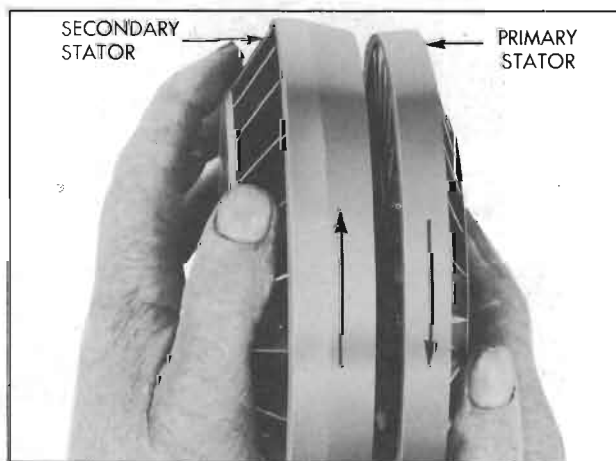

Figure 4-92—Separating the Primary and Secondary Stators
1. Rotate the primary and secondary stators as indicated in figure 4-92 while slowly drawing stators apart. Use care in separating stators otherwise free wheeling rollers and springs may fly out and be lost.